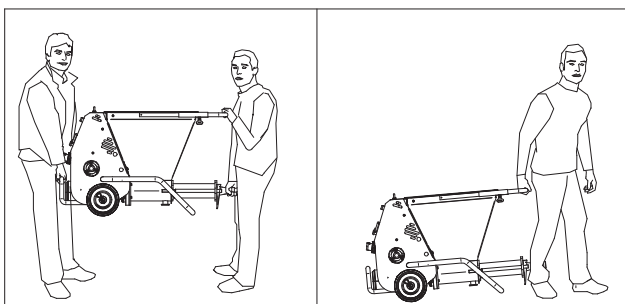

FIG. 3
8. DESPLAZAMIENTO DE LA MÁQUINA (fig. 3/4)